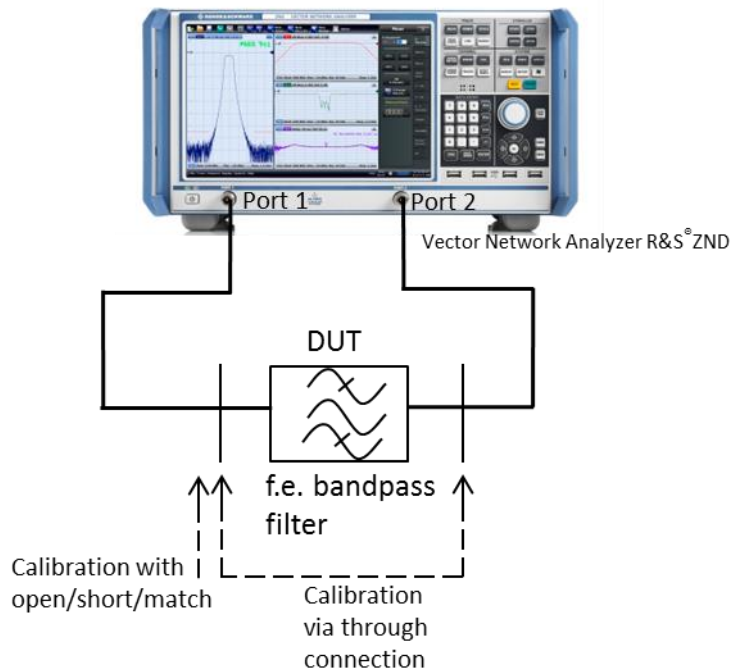

Fig. 2-18: Measurement of the filter characteristics using the ZND vector network analyzer.
As shown in Fig. 2-18 the test setup is calibrated before the measurement. For a vectorial measurement, the test cables must be through-connected, followed by three additional calibration steps. A short circuit, an open circuit and a high-precision 50  $\Omega$  resistor are used as calibration standards. It must be ensured that the correct calibration standard is connected to the cable end. The RF characteristics (essentially the reflection) of each standard are known, making it possible to calculate the associated correction values. Unlike with scalar measurements using the spectrum analyzer, the length of the through connection must be known because this will affect the phase measurement.
- Connect the filter between the two test cables as shown in Fig. 2-18.